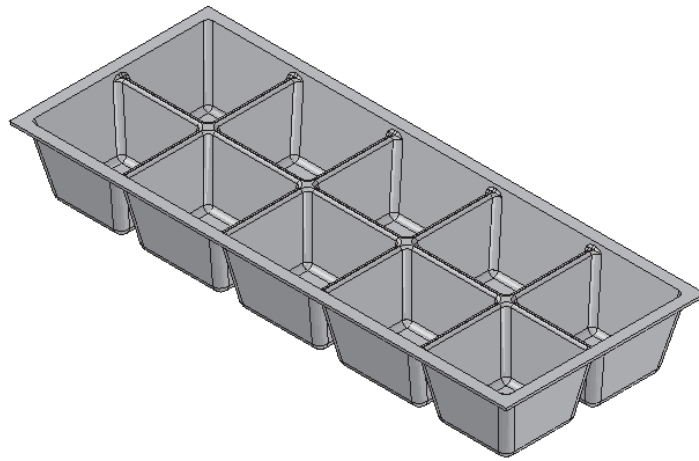

Figure 7-73 Final model of the ice tray
- f. Add another thin wall feature, refer to Figure 7-73.
4. Choose **Preview** and then the **Finish** button to create the thin wall feature. The final model of the ice tray, after creating the thin wall feature, is shown in Figure 7-73.